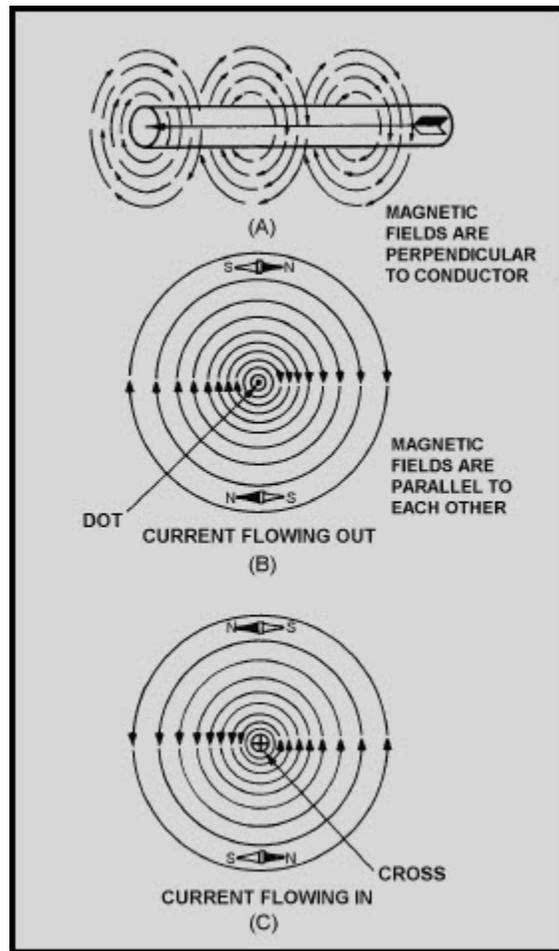
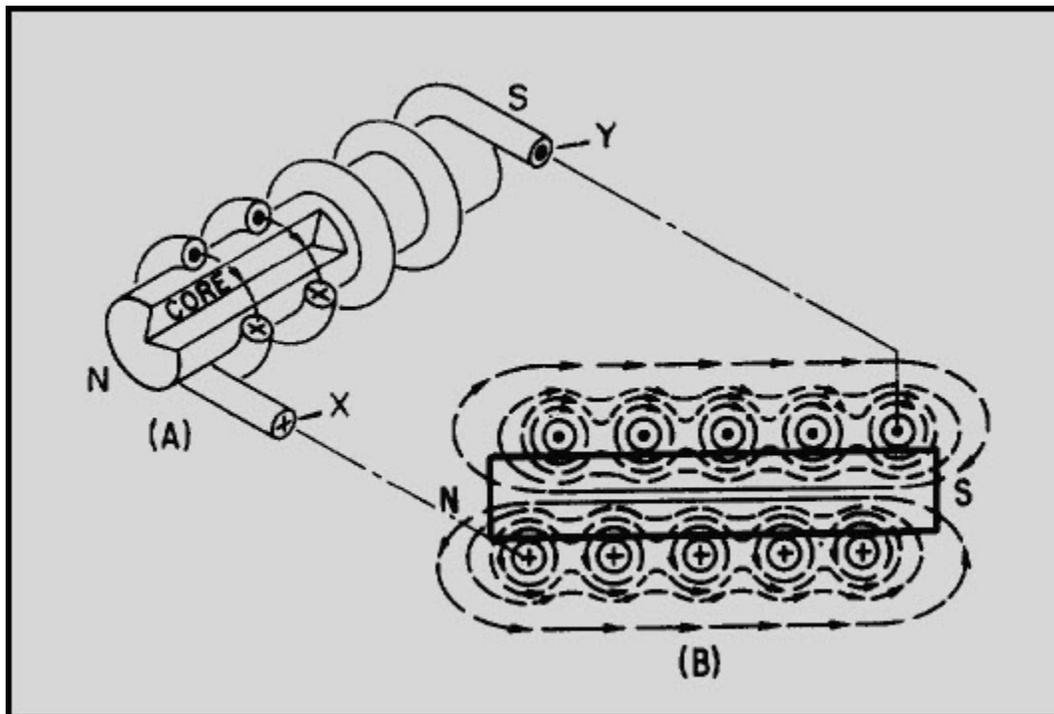

Figure 1-3 Magnetic field around a current-carrying conductor, detailed view
Figure 1-5 Magnetic field produced by a current-carrying coil
An arrow is generally used in electrical diagrams to denote the direction of current in a length of wire (see figure 1-3(A)). Where a cross section of a wire is shown, an end view of the arrow is used. A cross-sectional view of a conductor that is carrying current toward the observer is illustrated in figure 1-3(B). Notice that the direction of current is indicated by a dot, representing the head of the arrow. A conductor that is carrying current away from the observer is illustrated in figure 1-3(C). Note that the direction of current is indicated by a cross, representing the tail of the arrow. Also note that the magnetic field around a current-carrying conductor is perpendicular to the conductor, and that the magnetic lines of force are equal along all parts of the conductor.
Figure 1-3(A) illustrates that the magnetic field around a current-carrying wire exists at all points along the wire. Figure 1-5 illustrates that when a straight wire is wound around a core, it forms a coil and that the magnetic field about the core assumes a different shape. Figure 1-5(A) is actually a partial cutaway view showing the construction of a simple coil. Figure 1-5(B) shows a cross-sectional view of the same coil. Notice that the two ends of the coil are identified as X and Y.